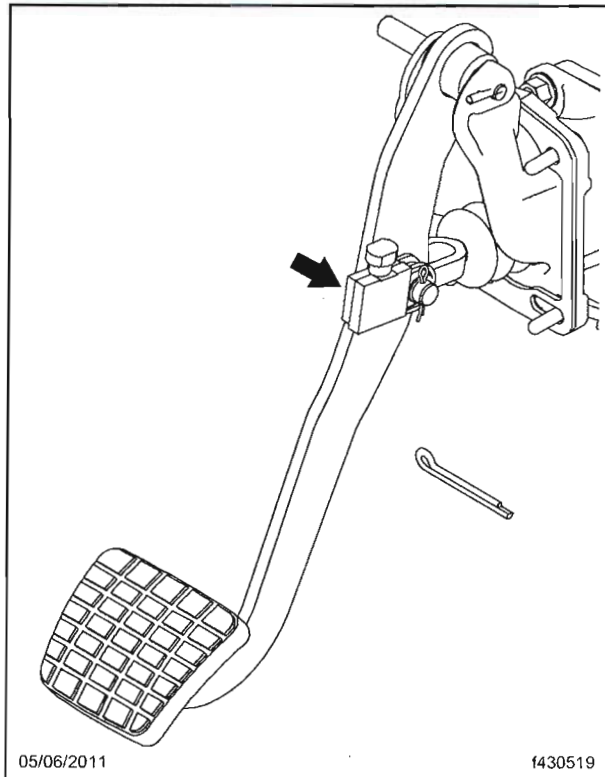

Fig. 1, Brake Switch Location
1. Locate the brake switch on the brake pedal. See **Fig. 1** for location of the brake switch.